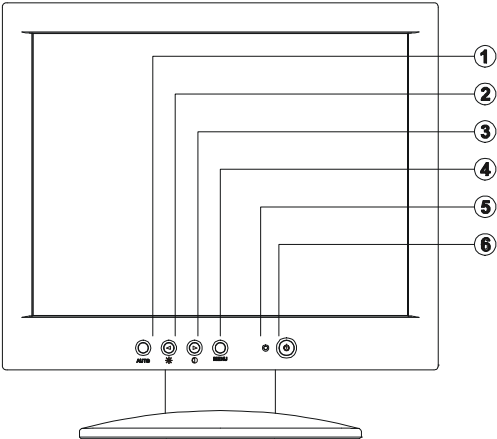

Figure 4: Control Buttons
- 3 Locate the power button (see Figure 4 and Table 1 on page 10).
The power button is located on the front panel of the monitor. The buttons to the left of the power button are for adjusting the monitor's picture. See Figure 4 and Table 1 on page 10 for the layout and names of the control buttons.